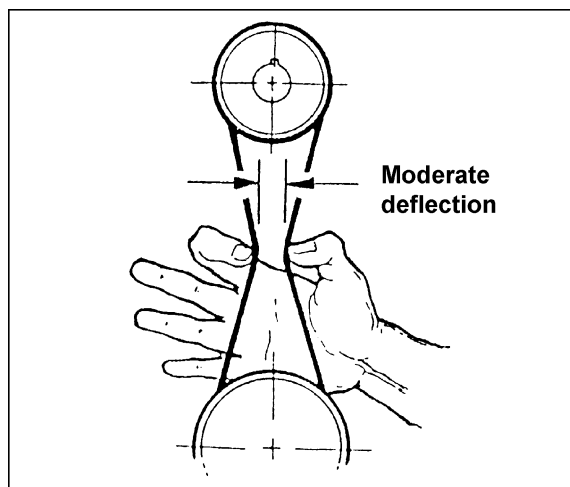

Figure 8
5. Let the motor slide back down and push down on it until the belt is properly tensioned. NOTE: There should be only moderate deflection, usually about 12.7mm (1/2"), in the belt midway between the pulleys when using light finger pressure (Figure 8).